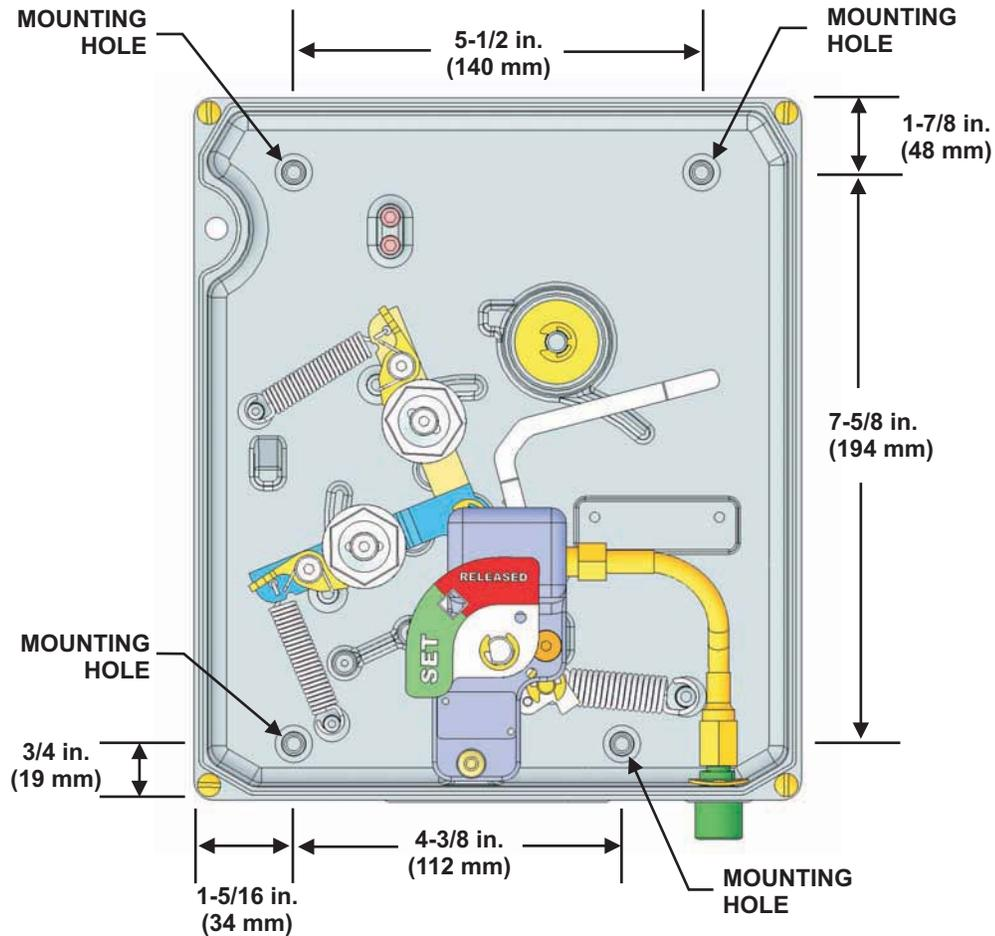

Figure 4-7. Location of Mounting Holes (Housing)
1. With the Universal Control Head cover removed, lay the box on its back. Locate the four mounting holes in the housing. Position the box so that the mounting holes are not flat on the work surface and break out the knockouts. See Figure 4-7 for location of mounting holes.